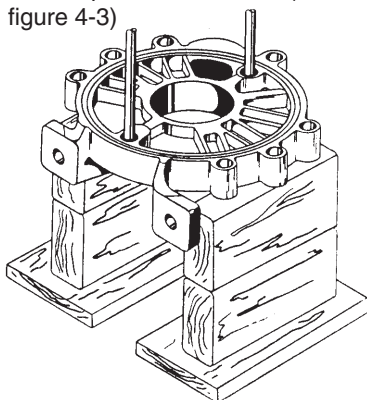

Figure 4-3
3. It is recommended that the assembly be placed on blocks in a vertical position as shown.(refer to figure 4-3)